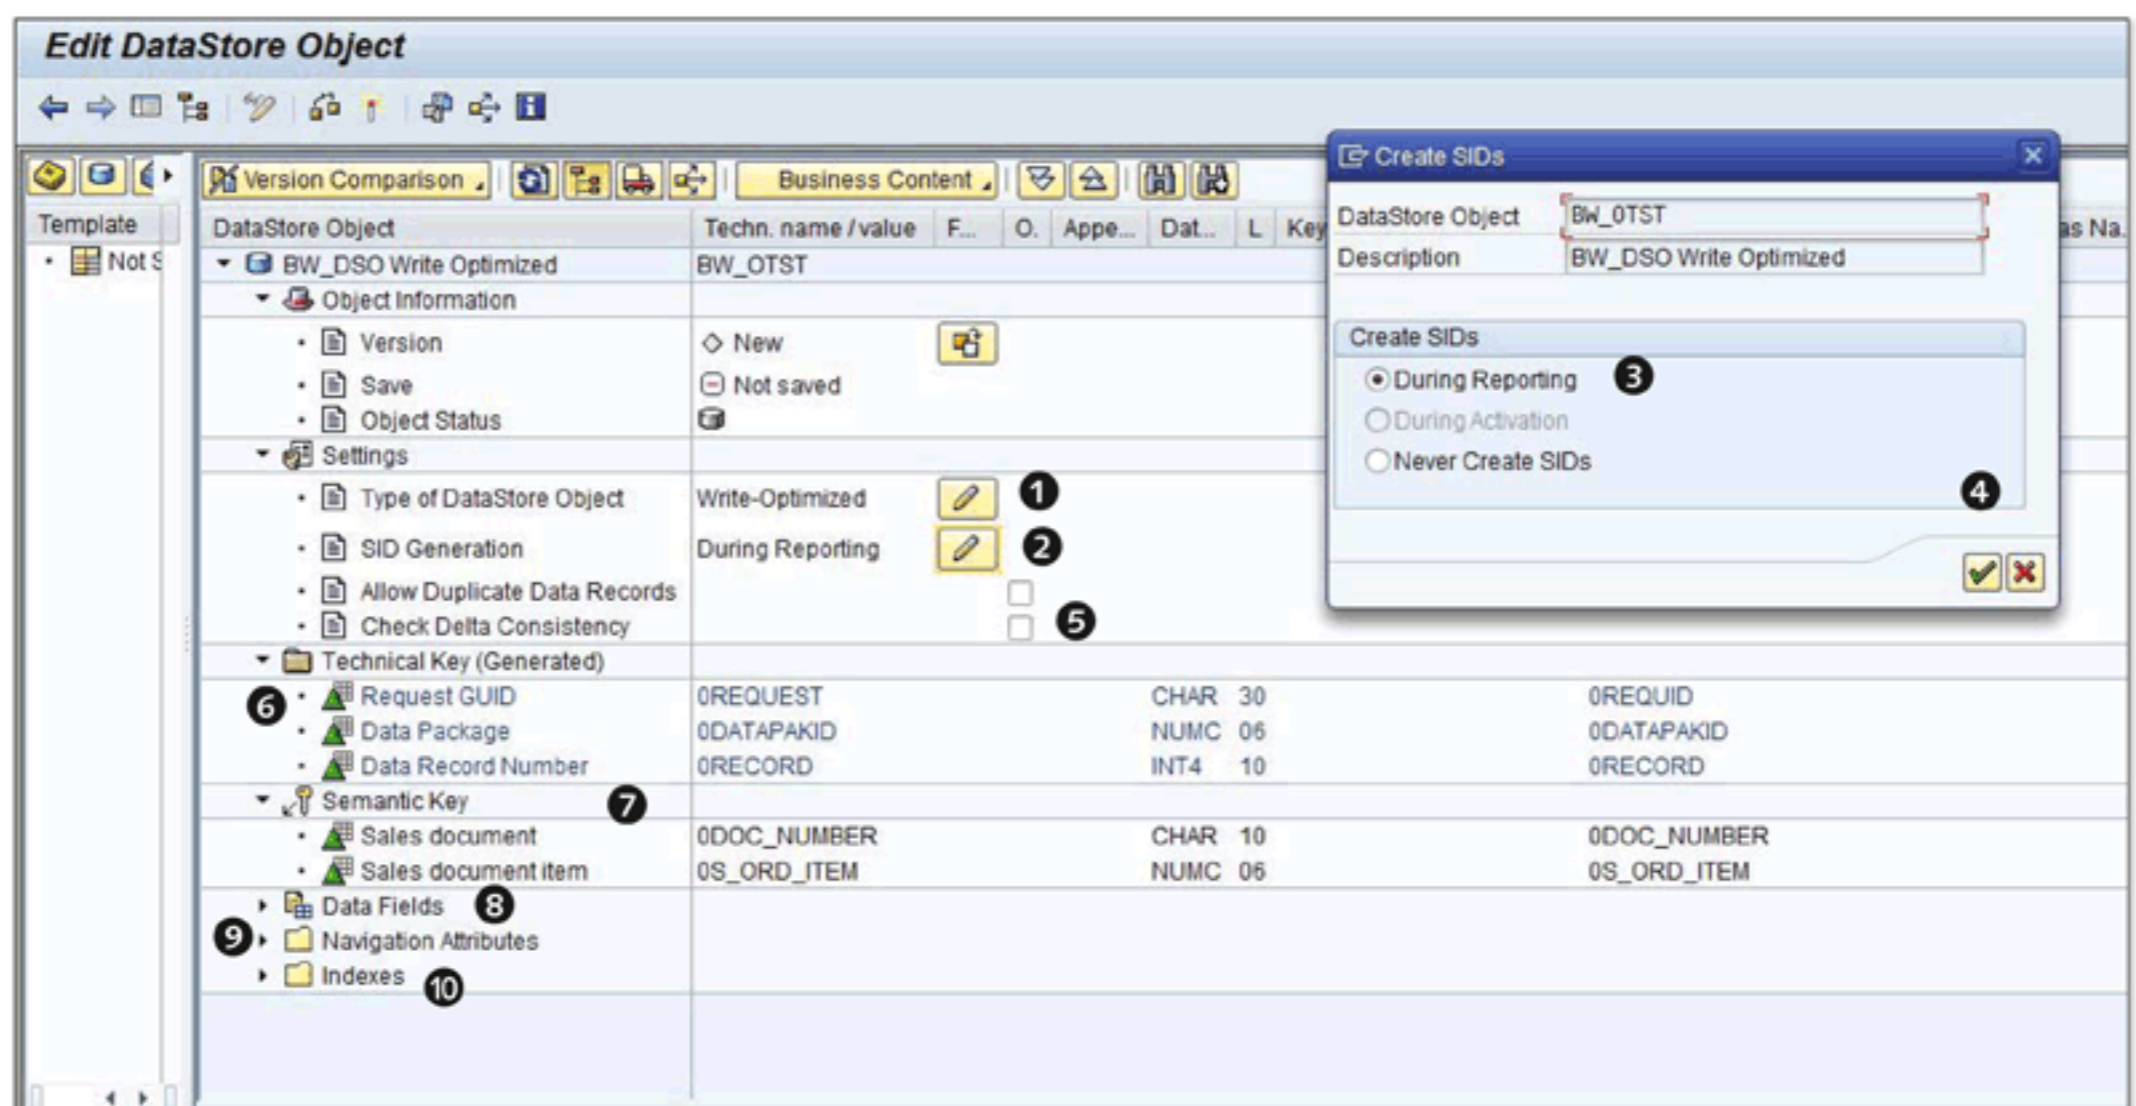

Figure 4.16 Creating Write-Optimized DSOs
Compared to standard DSOs, the settings required while creating a write-optimized DSO are much less complex (Figure 4.16). To access this screen, select DSO from the DWW. From the context menu, select CHANGE.
The first thing to do when creating a write-optimized DSO is to change the TYPE OF DATASTORE OBJECT to WRITE-OPTIMIZED, as shown in 1 of Figure 4.16. The system then generates the TECHNICAL KEY, which consists of the following fields: REQUEST GUID, DATA PACKAGE, and DATA RECORD NUMBER (6).
As shown in Figure 4.16, you need to maintain the SEMANTIC KEY (7), DATA FIELDS (8), NAVIGATION ATTRIBUTES (9), and INDEXES (10) areas of the screen. The SEMANTIC KEY on this screen is the same as the key fields of the standard DSO, as are the rest of the settings.